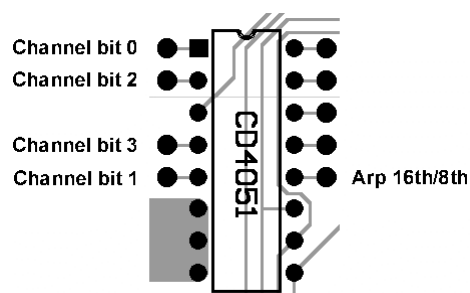

Figure 3
3. Connect cables from the required switch connections around the CD4051 shown in detail in figure 3, the length will vary depending on the exact position of the switches but 40-50cm is a typical length. For now, do not connect the switches and leave the ends of the wires loose.